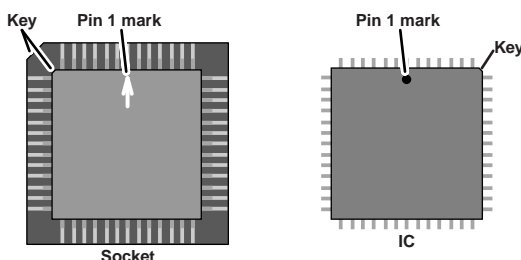

Figure B-8 — Key and pin 1 mark
7. Note the key (angled corner) of the new firmware IC and the dot on the underside that indicates pin 1 (figure B-8). Orient the IC to match the key and pin 1 (indicated by arrow) on the socket, and carefully press the IC in place.